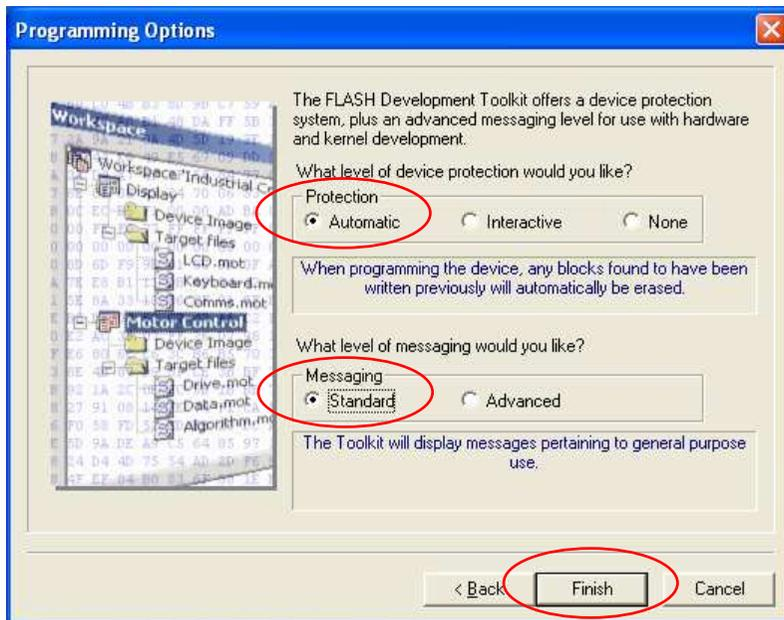

Figure 75:
23. Select 'Automatic' for the protection level and 'Standard' for messaging. Then select 'Finish' to complete installation (Figure 75).